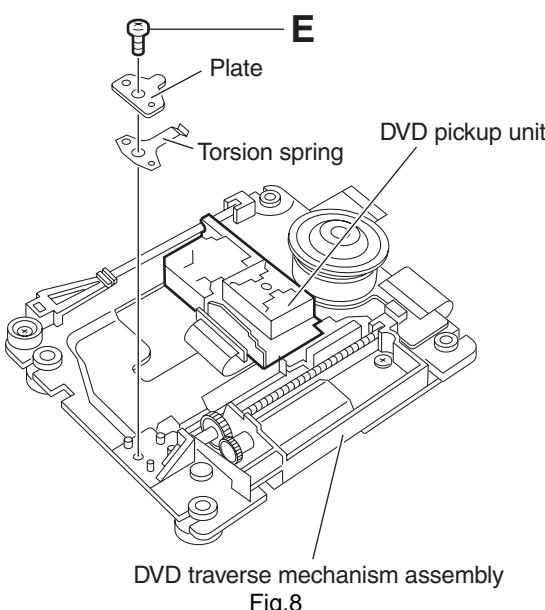

Fig.8
3.3.8 Removing the DVD pickup unit (See Figs.8 to 10)
- (1) From the top side of the DVD traverse mechanism assembly, remove the screw **E** attaching the plate and torsion spring. (See Fig.8.)
3.3.9 Attaching the DVD pickup unit (See Figs.8, 10 to 12)
- (5) Attach the torsion spring. (See Fig.8.)
- (6) Attach the plate. (See Fig.8.)